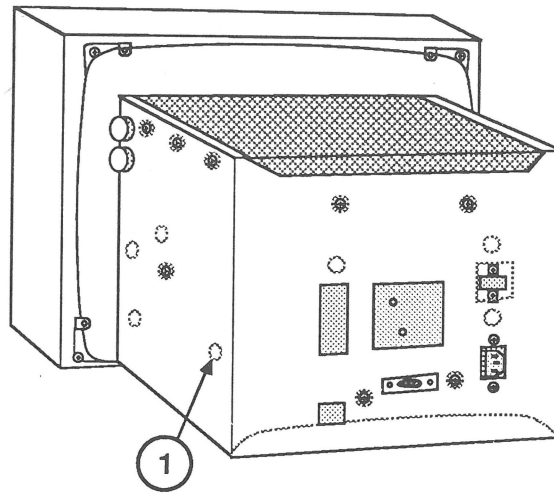
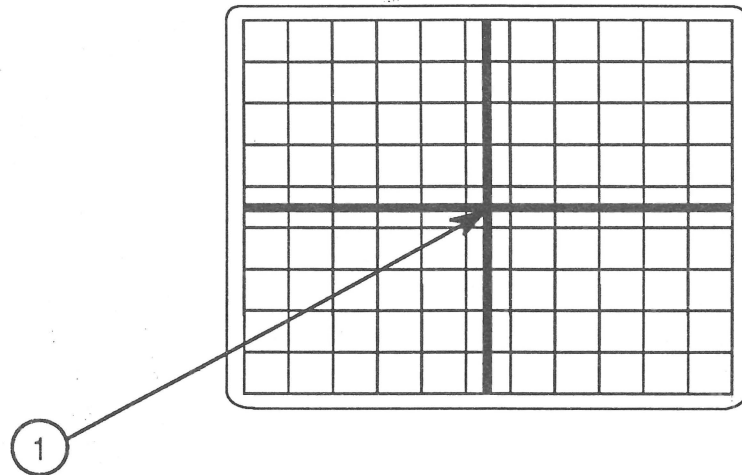

FIGURE 7
FIGURE 8
3. Then, slowly adjust the HORIZONTAL LINEARITY control (Figure 7, #1) clockwise or counterclockwise until both the left and right halves of the raster are the same distance from the center of the screen (Figure 8, #1).
Note: To measure the left half of the raster, place a flexible ruler against the screen directly over the black horizontal line. Align the zero mark of the ruler with the left edge of the raster. While holding the ruler in this position, note the ruler measurement at the point where the two black lines intersect (Figure 8, #1). To measure the right half of the raster, align the zero mark of the ruler at the point where the two black lines intersect (Figure 8, #1). While holding the ruler in this position, note the ruler measurement at the right edge of the raster.
5. Verify that the left and right halves of the raster are still the same distance from the box at the center of the screen. If necessary, readjust the HORIZONTAL LINEARITY control (Figure 7, #1) until the left and right sides of the screen are the same size.